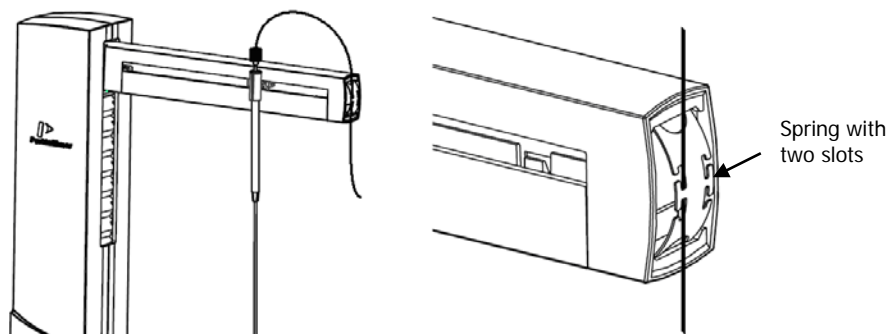

Figure 9 Connecting the sample tube to the sampling probe
1. A spring clip with two slots is provided to hold the sample tube; the narrower slot holds the 0.6 mm tube, while the wider slot holds the 1 mm tube, as shown in Figure 9.